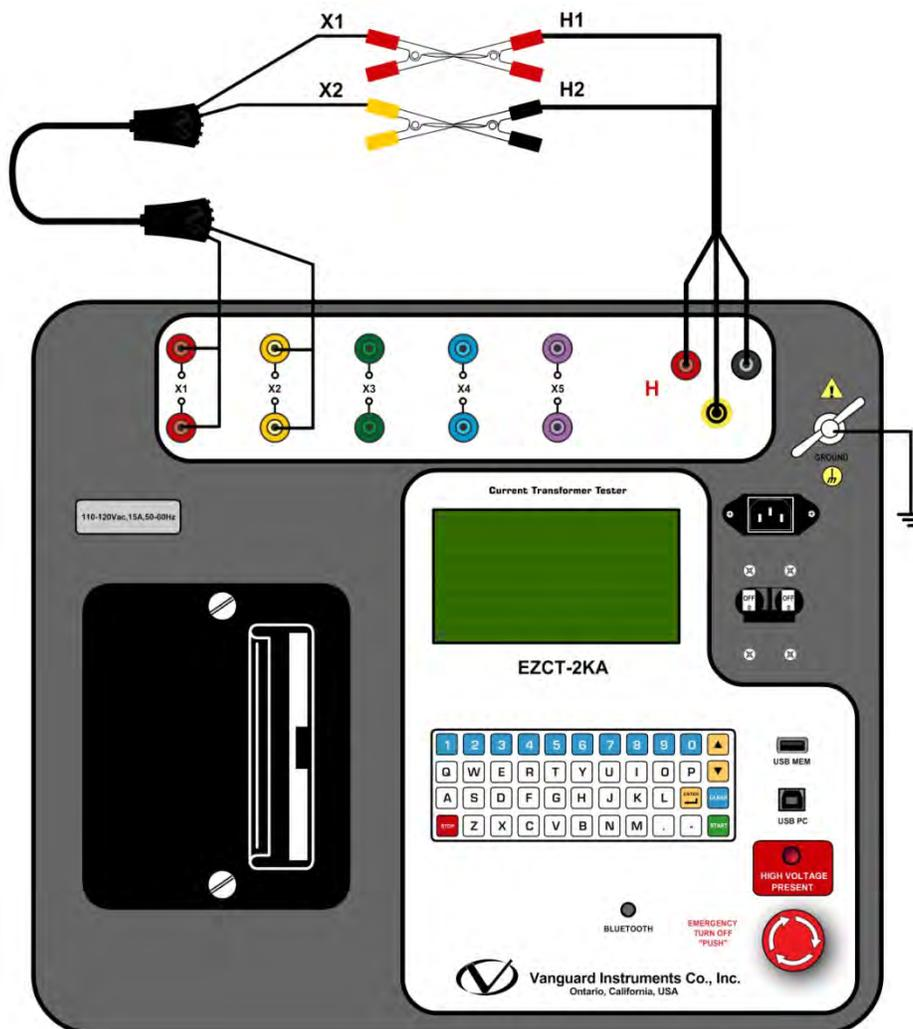

Figure 22. EZCT-2KA Turns Ratio Verification Test Connections
- Connect the X1 test lead to the H1 test lead as shown in Figure 22.
- Connect the X2 test lead to the H2 test lead as shown in Figure 22.